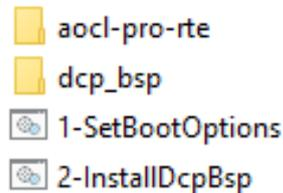
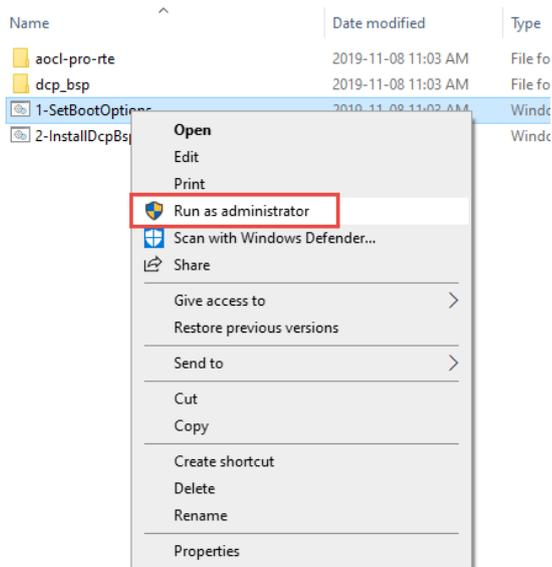

Figure 3-4 The FLIK-Windows-Install folder
Figure 3-5 Run 1-SetBootOptions.bat as administrator
3. Go to the path “/OpenVINO2019R1\_windows/FLIK-Windows-Install\_19.2” and execute “**1-SetBootOptions.bat**” as an Administration to enable test-signed code and device driver signing of the windows, as shown in **Figure 3-4** and **Figure 3-5**.